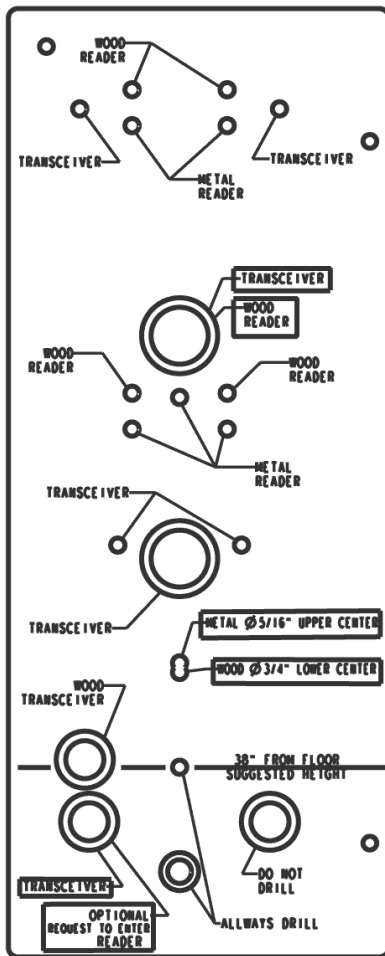
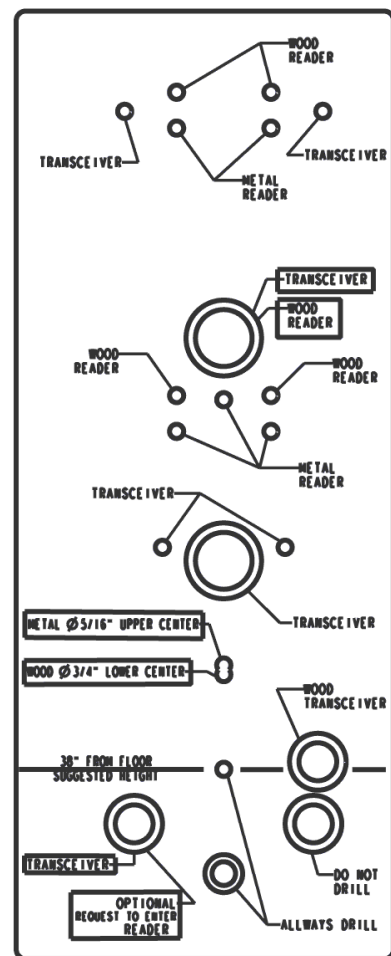

Figure 2-5 – Left View
Figure 2-7 – Right View
- 2.5.1.1.6 Clamp the Jig to the Reader side of the door making certain that edge of the jig is tight to the door edge and that the 38” line on the Jig (Figure 2-5 or Figure 2-7) lines up with the line drawn in section 2.5.1.1.1 above.
- 2.5.1.1.7 If the door is WOOD, drill bearing holes and mark non-bearing holes that are labeled WOOD READER, WOOD LOWER CENTER, and ALWAYS DRILL (Figure 2-5 or Figure 2-7).
- 2.5.1.1.8 If the door is METAL, drill bearing holes and mark non-bearing holes that are labeled METAL READER, METAL UPPER CENTER, and ALWAYS DRILL (Figure 2-5 or Figure 2-7).
- 2.5.1.1.11 Clamp the Jig to the Transceiver side of the door making certain that edge of the jig is tight to the door edge and that the 38” line on the Jig (Figure 2-5 or Figure 2-7) lines up with the line drawn in section 2.5.1.1.1 above.
- 2.5.1.1.12 If the door is WOOD, drill bearing holes and mark non-bearing holes that are labeled TRANSCEIVER, WOOD LOWER CENTER, WOOD TRANSCEIVER, and ALWAYS DRILL (Figure 2-5 or Figure 2-7).
- 2.5.1.1.13 If the door is METAL, drill bearing holes and mark non-bearing holes that are labeled TRANSCEIVER, METAL UPPER CENTER, and ALWAYS DRILL (Figure 2-5 or Figure 2-7).